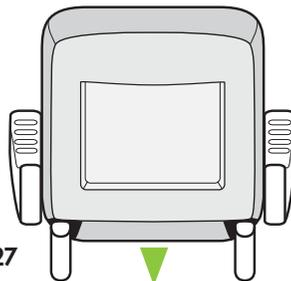

Figure 27
1. Turn the seat so the bottom is facing up, as shown in **Figure 27**. Make sure the UAS Connectors are pointing toward your body.